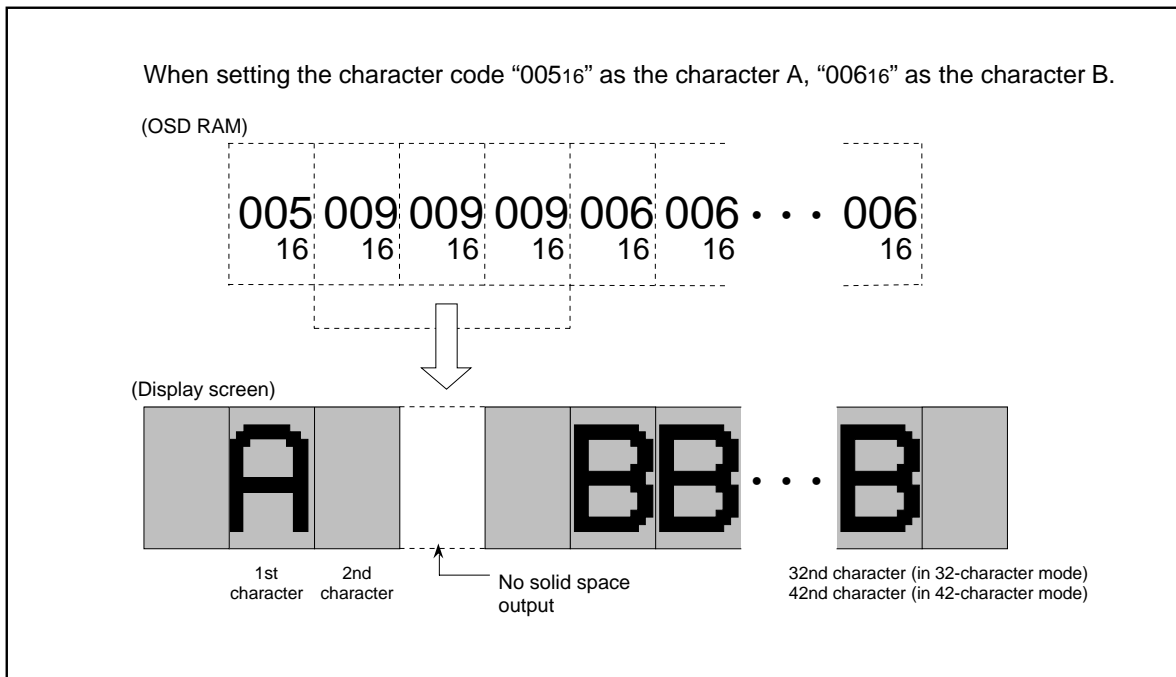

Figure 2.16.38 Display screen example of automatic solid space
- 3 :** The border in vertical out of character area is not displayed (refer to Figure 2.16.38).